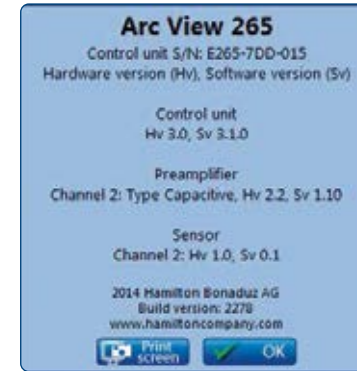

Figure 59: General information menu of the Arc View Controller.
1. Press the About Button in the Main Menu (Figure 13) and press print screen (Figure 59).